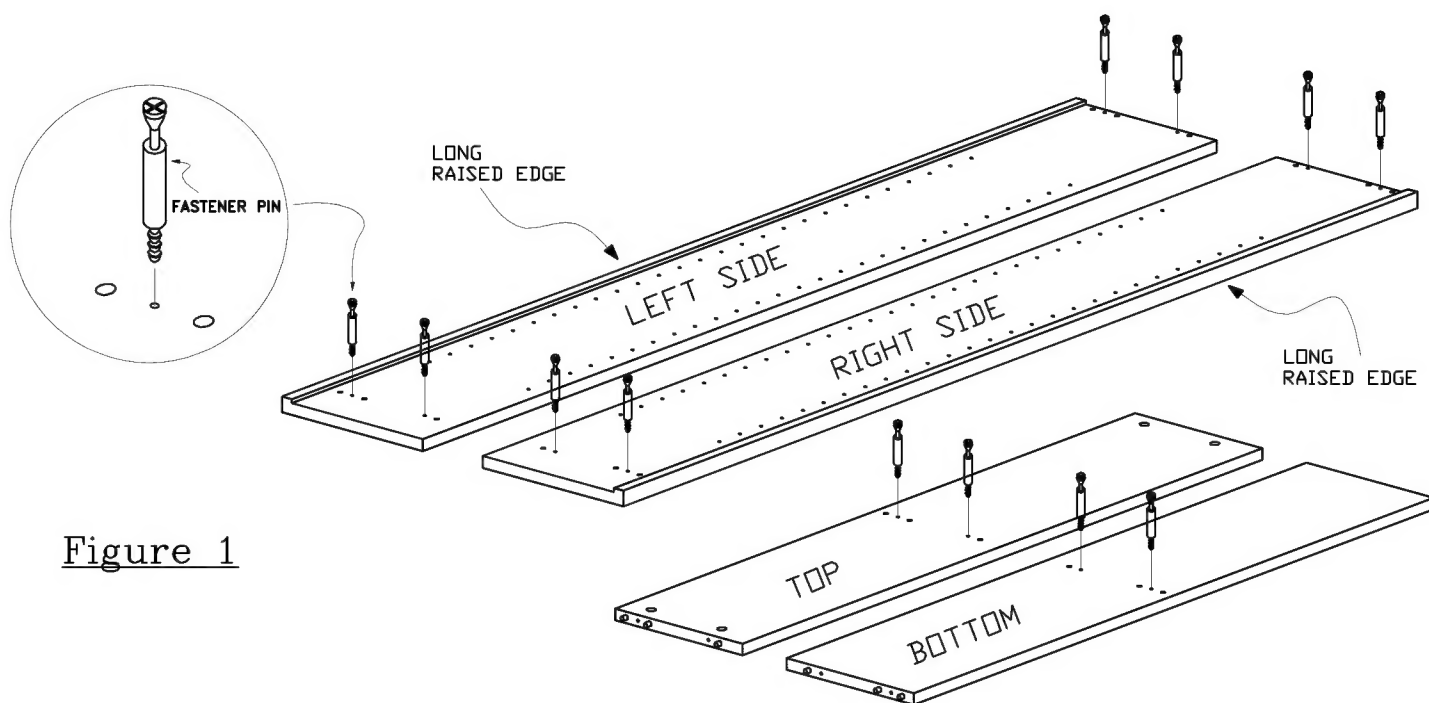

Figure 1
Step 2. On a clean soft surface, such as a carpet or the inside of the carton, place **RIGHT SIDE**, with the small-pre-drilled holes facing up and the long raised edge facing towards you. See Figure 1.
Step 3. Insert and screw 4 metal fastener pins into 4 small pre-drilled holes of **RIGHT SIDE**. **DO NOT OVER TIGHTEN.** See Figure 1.
Step 4. With your friend, carefully place **LEFT SIDE**, with the small-pre-drilled holes facing up and the long raised edge facing towards you. See Figure 1.
Step 5. Insert and screw 4 metal fastener pins into 4 small pre-drilled holes of **LEFT SIDE**. **DO NOT OVER TIGHTEN.** See Figure 1.
Step 6. With your friend, carefully place **TOP** (finished on both sides), with the small-pre-drilled holes facing up. See Figure 1.
Step 7. Insert and screw 2 metal fastener pins into 2 small pre-drilled holes of **TOP**. **DO NOT OVER TIGHTEN.** See Figure 1.
Step 8. With your friend, carefully place **BOTTOM**, with the small-pre-drilled holes facing up and unfinished face with big holes (for cams) facing down. See Figure 1.
Step 9. Insert and screw 2 metal fastener pins into 2 small pre-drilled holes of **BOTTOM**. See Figure 1.